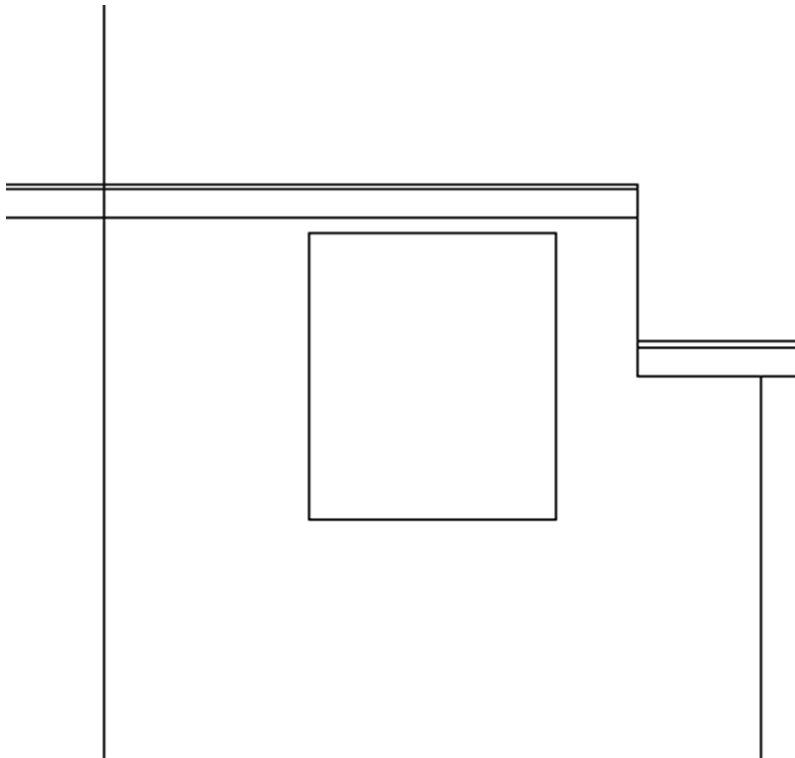

FIGURE 10.14: Using the `FILLET` command to complete the bathroom window
20. Using a Fillet radius of 0, fillet each of the four corners of the bathroom window, as shown in Figure 10.14.